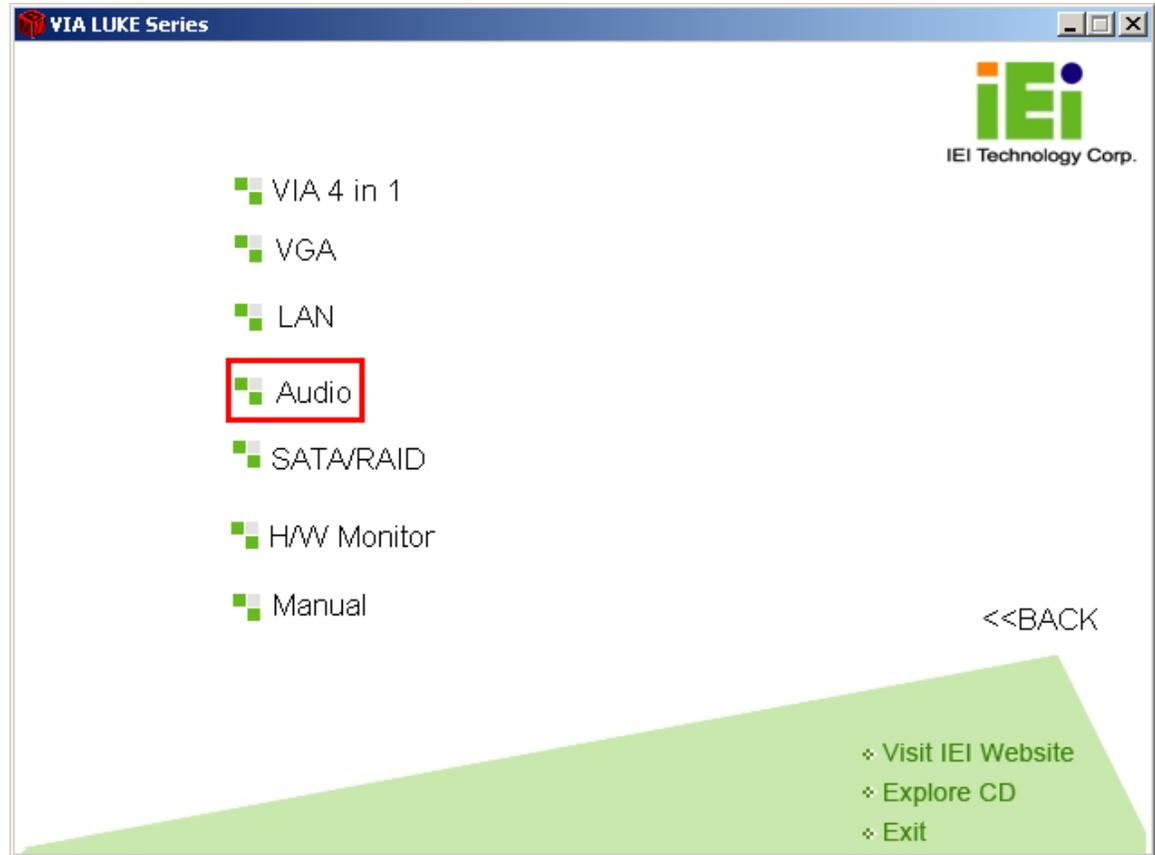

Figure 6-11: Select Audio
Step 3: Select the “LAN” option shown in Figure 6-11.